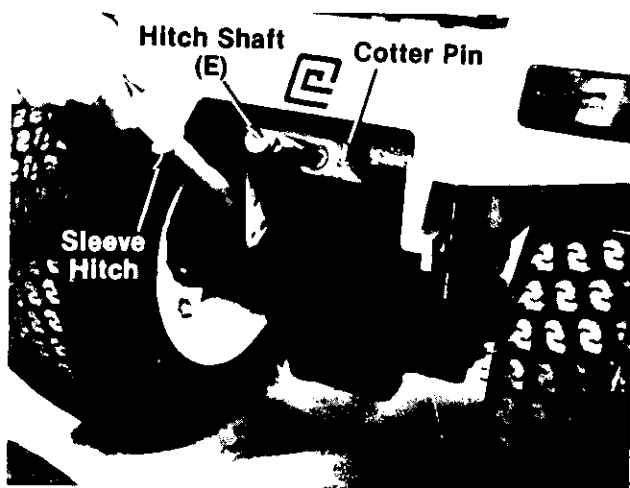

FIGURE 4.
3. Assemble new hitch shaft (Ref. E) with cotter pin removed in step 2. See figure 4.